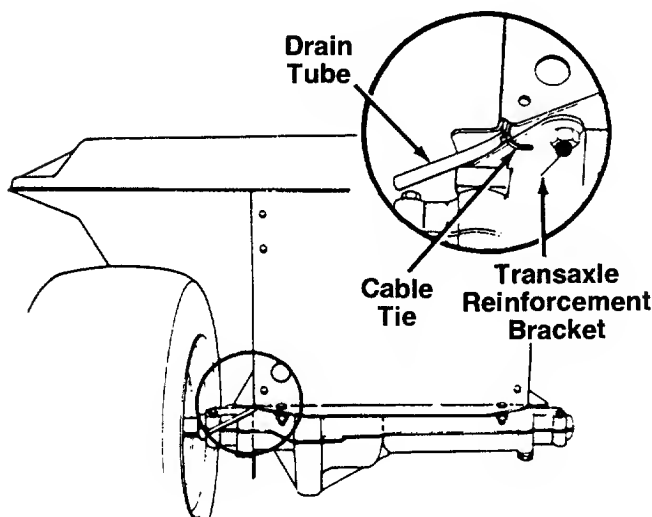

FIGURE 5.
6. Route the drain tube through the opening between the transaxle reinforcement bracket and the frame on the left rear of the unit. Insert the drain tube to the transaxle reinforcement bracket through the cable tie which is attached as shown in figure 5. Be certain drain tube is routed away from the wheel rim. Trim excess end of cable tie.